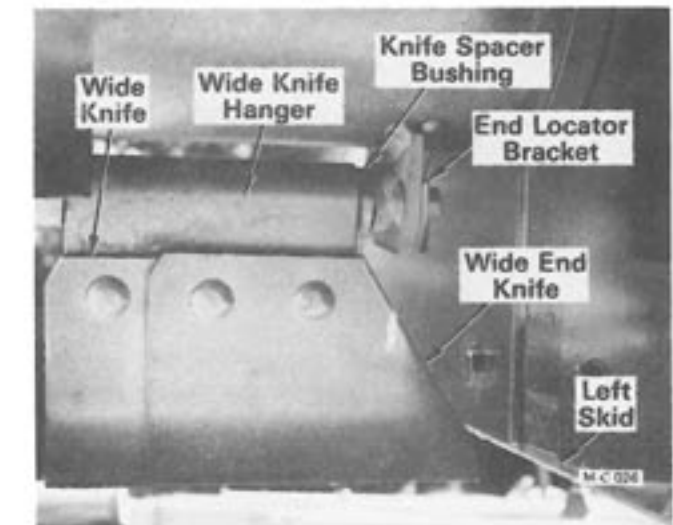

Figure 28
- Turn the rotor and line up the hanger bar in the center of the slot in the left side of the body, see Figure 28. Block the rotor in this position.
- Turn the rotor and line up the hanger bar in the center of the slot in the left and right side of the body, see Figure 28. Block the rotor in this position.
- B. Turn the rotor and line up the hanger bar in the center of the slot in the side of the body, see Figure 28. Block the rotor in this position.
- B. Remove the inner end locator bracket, see Figure 28. Turn the rotor and line up the hanger bar in the $1\frac{1}{4}$ inch hole in the front of the Shredder center plate. Block the rotor in this position.
- B. The end knives must be opposite each other at each end of the rotor. The wide end of the knife faces the outside, see Figure 28.
- C. A knife spacer bushing goes between each end locator bracket and wide knife hanger, see Figure 28.
C. A knife spacer bushing goes between each end locator bracket and wide knife hanger, see Figure 28.